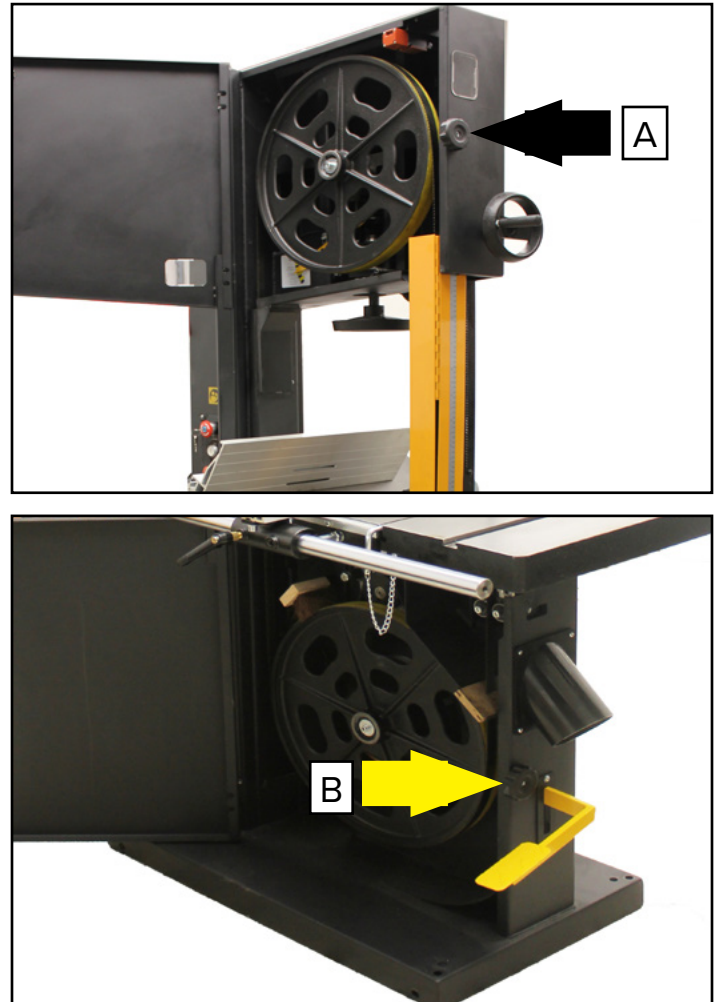

Figure 15: Opening the doors.
- Open the top and bottom wheel doors (in tandem) by turning the door locking knobs Fig. 15 (A &B).